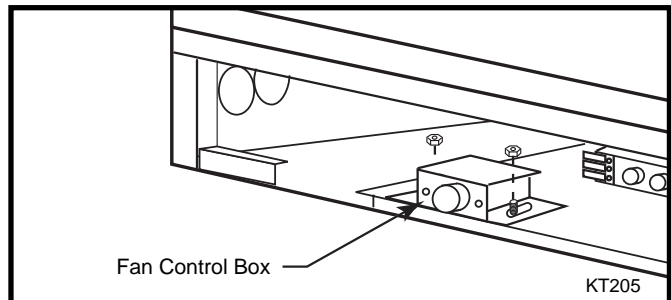

Fig. 60 Remove fan control box.
- a. Remove the Fan Speed Control Box (Fig. 60)